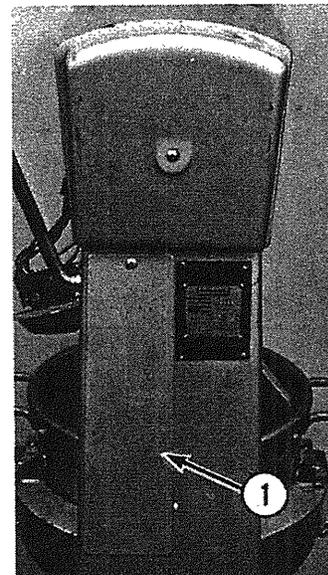

Fig. 6-3
- C. Remove lift access cover (1, Fig. 6-3).
- A. Remove lift access cover assembly (1, Fig. 6-3).
- (1) Remove lift access cover assembly (1, Fig. 6-3).
- (1) Support bowl lift in half raised position with a block of wood or some other object.
- (2) Remove lift access cover assembly (1, Fig. 6-3).